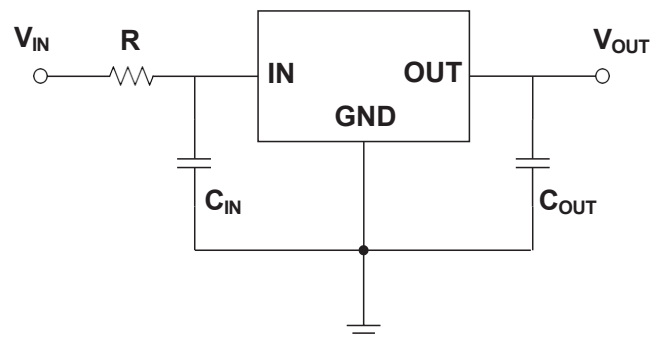

Figure 9-2. Resistance is used at IN
2. Place a resistor with appropriate resistance in series before the IN of the voltage regulator, which can help the voltage regulator share part of the energy in case of surge. The resistance value of the resistance should not be too large. The specific resistance value depends on the application of the circuit. Generally, the resistance value of this resistance does not exceed 20Ω. As shown in Figure 9-2.
For the VS78M series, it is recommended that the input voltage should not exceed 17V and the peak voltage should not exceed 35V. **When the input voltage is greater than 17V, or the peak voltage that may be greater than 35V may appear in the practical circuit, it is recommended to adopt the circuit layout shown in Figure 9-2 in the circuit design.**
The VS78M series can obtain better transient response with the help of output capacitance. However, if the output capacitor is relatively large, the surge current generated by the charging of the output capacitor will also be large at the moment of power on of the regulator, and the large surge current passing through the regulator may damage the internal circuit. When the output capacitance is large, adopting the circuit design shown in Figure 9-2 will reduce the possibility of damage to the device due to large surge current to a certain extent. It is recommended that the selection of output capacitor should not exceed $20\mu\text{F}$. **If the selection of output capacitor exceeds $20\mu\text{F}$, it is recommended to adopt the circuit design in Figure 9-2 to reduce the possibility of accidental failure of the device due to large surge current during power on.**
It is recommended that the output capacitor (C_{OUT}) should not exceed $20\mu\text{F}$. When the output capacitor (C_{OUT}) exceeds $20\mu\text{F}$, it is recommended to use the circuit layout shown in Figure 9-2. See *Large Output Capacitance* for more details.